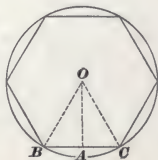

FIG. 36.
**EXAMPLE.**—In Fig. 36 the side  $BC$  of the regular hexagon is 12 inches and the distance  $AO$  is 10.4 inches; required the area of the polygon.
**82.** To find the area of a sector (a **sector** of a circle is the area included between two radii and the circumference, as, for example, the area  $BAC O$ , Fig. 36):